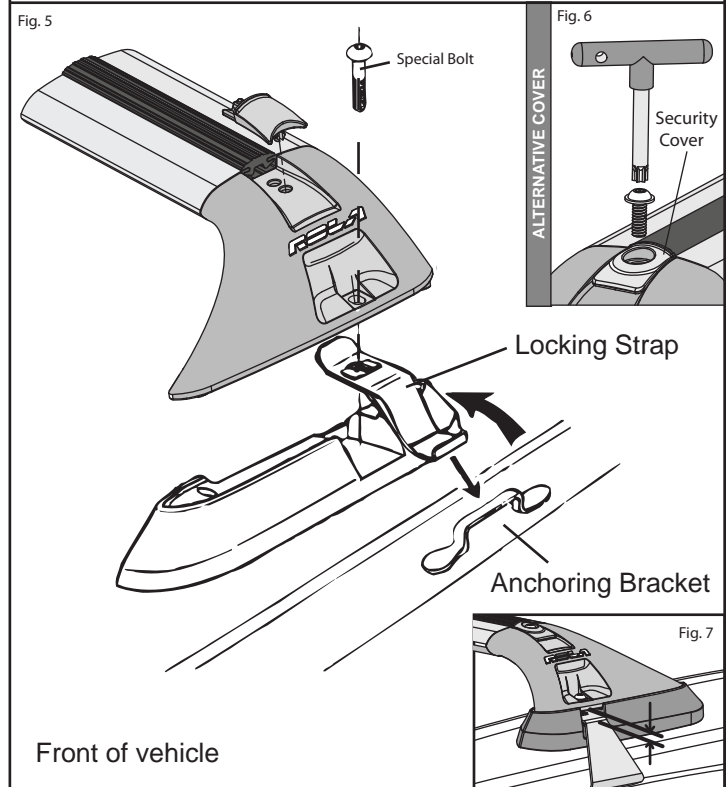

Fig. 6
8. Loosely fit Special Bolt through End Support and into the Straps. Give two to three turns of Special Bolt in Locking Strap with Security Key provided. Go to the other side of the vehicle and pull on the End Support and fit the same. This will allow correct alignment of Locking Straps and Special Bolt thread (Fig.6).
Note: You have a choice of 2 - (a) quick access snap-on cover or (b) long term mounting - security cover to cap off and lock the mount channel. (Fig. 6 and Fig. 7)